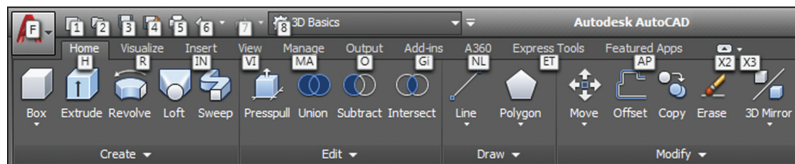

FIGURE 1.13 Keytips allow you to press keys to manipulate the ribbon with the keyboard.
8. Press and release the Alt key. Keytips appear on the ribbon (see Figure 1.13). Pressing any of the letter combinations activates that part of the GUI. Type IN and observe that the Insert tab is selected without moving the cursor.